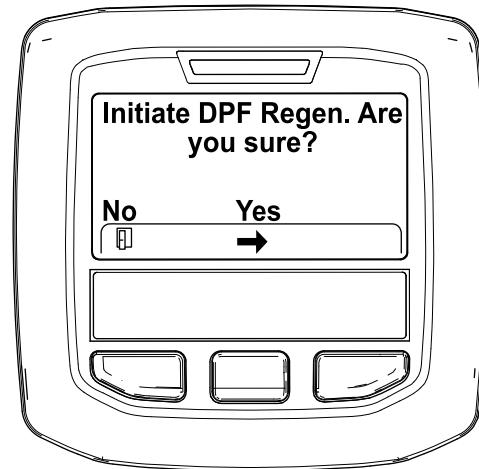

Figure 31
- When the "Initiate DPF Regen. Are you sure?" message displays, press the center button (Figure 31).